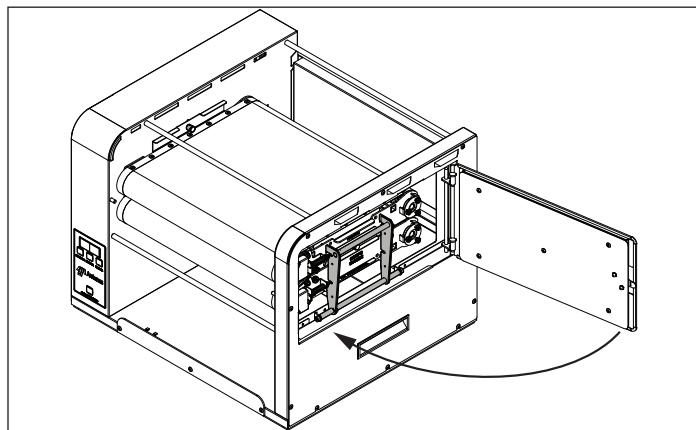

Figure 8. Close Side Panel
9. Close and lock the side panel (Figure 8).